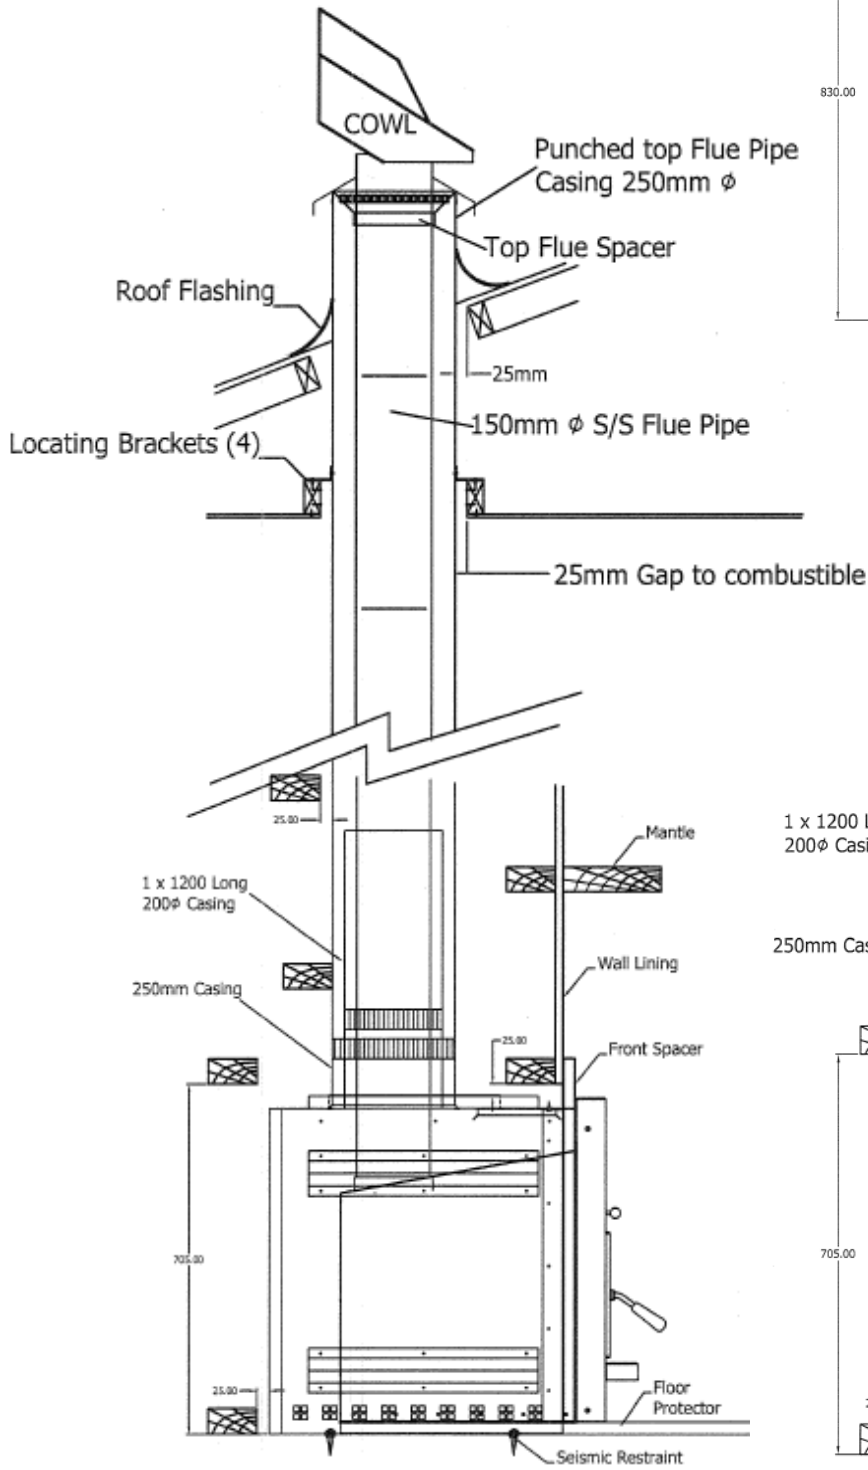

Fig.3
2. Combustible materials can be in contact with the 25mm standoffs fitted to the outside of the cabinet, but we recommend an additional clearance of 25mm beyond the standoffs for ease of moving into position without becoming jammed in the wall cavity provided for the appliance. See fig. 3 and 4.